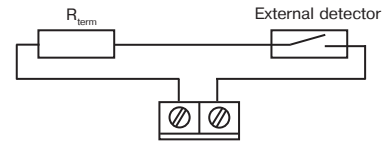

Figure 7
8.4 If necessary, connect an external detector (for example, hermetic contact) to the connecting blocks as it shown in Figure 7. Hook up the terminal (EOL) resistor  $R_{term}$  (5.1 k $\Omega$  resistor) to the end of the loop. The length of the loops must not exceed 5 m. The connections must be soldered or screwed.